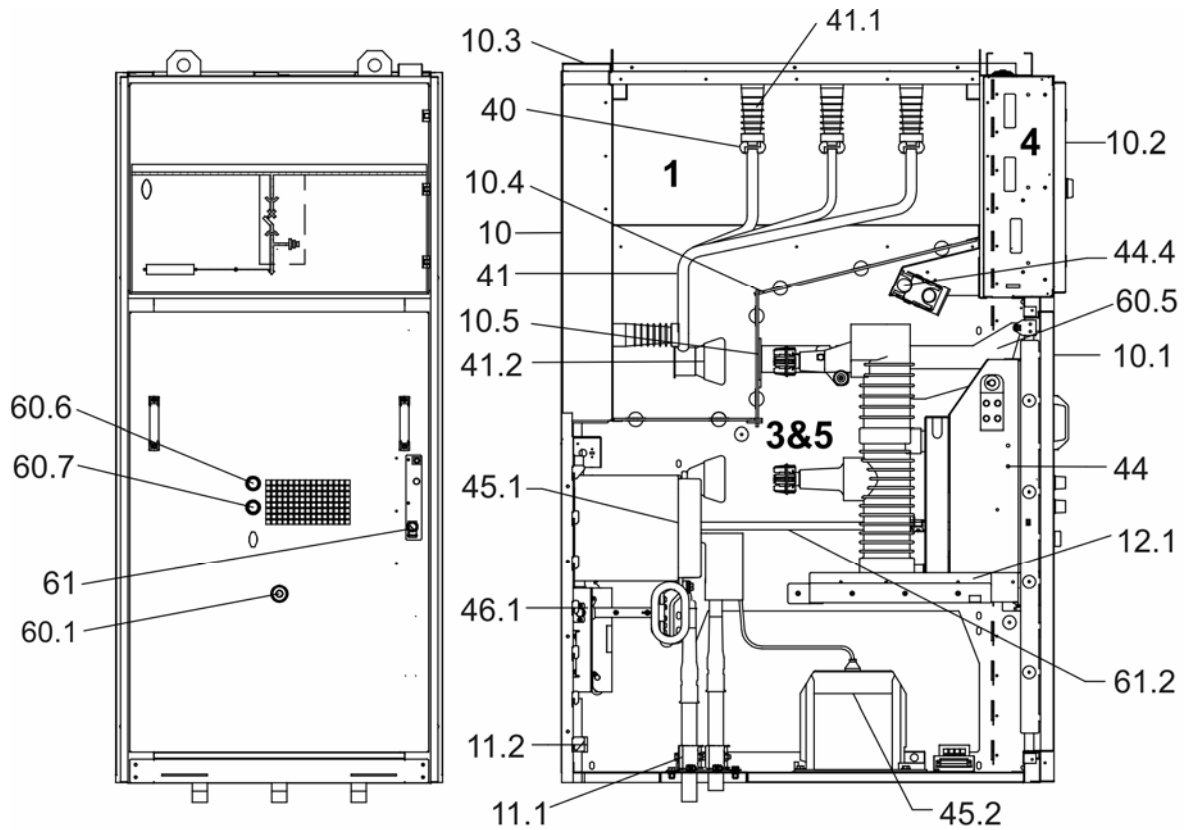

Figure 3.2
The cubicle is divided into the following compartments (for all compartments, see Figure 3.2):
2) Circuit-breaker & cable compartment (3 & 5) (see also Figure 3.2 and Figure 3.9)
- Current transformers (45.1) (Figure 3.2), fixed and voltage transformers (45.2), and earthing switch (46.1), are fitted according to individual operating requirements in each case.